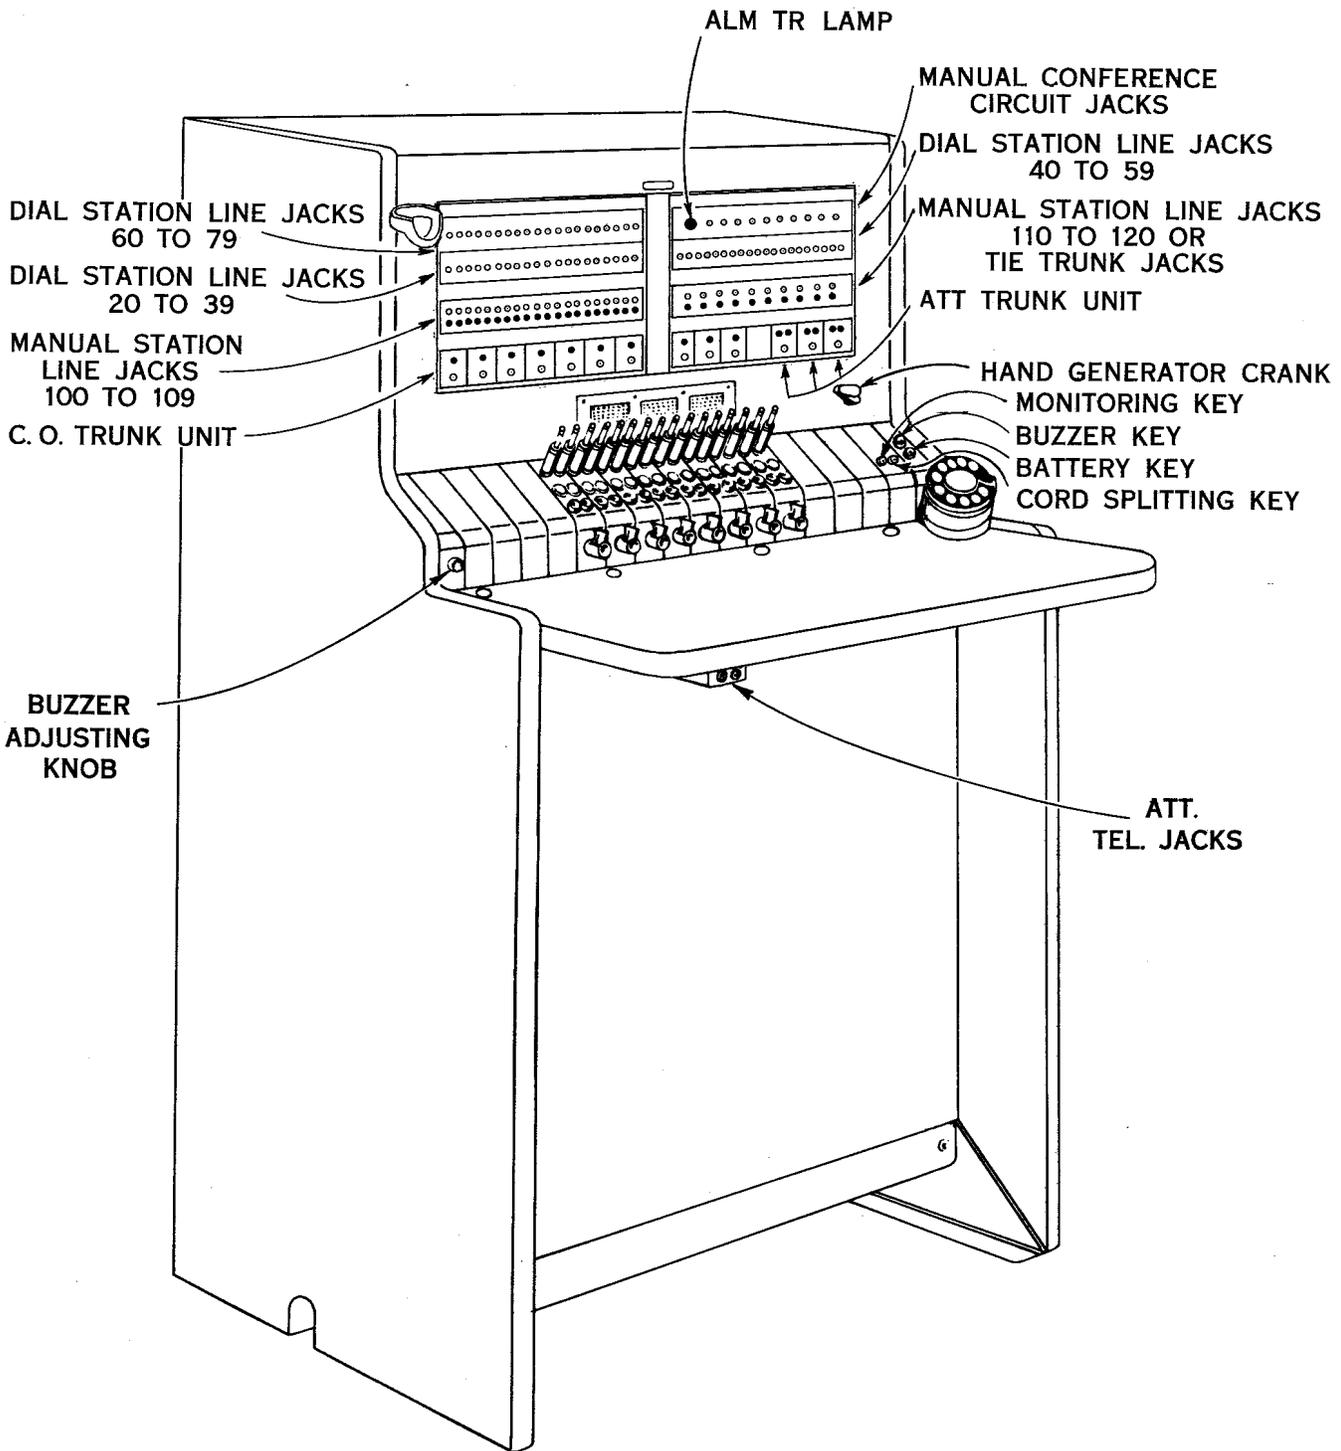

Fig. 1 - 556A Switchboard with Wooden Casing
1.05 Fig. 1 shows a front view of the 556A PBX.